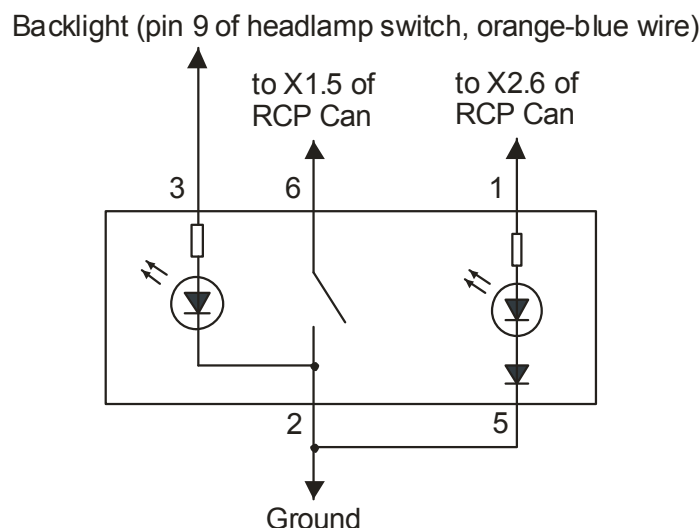

Figure 2
- An original Ford windscreen or back glass heating button can be additionally installed as a heater control button. The button pinout presented at the figure 2. Buttons are optionally available.